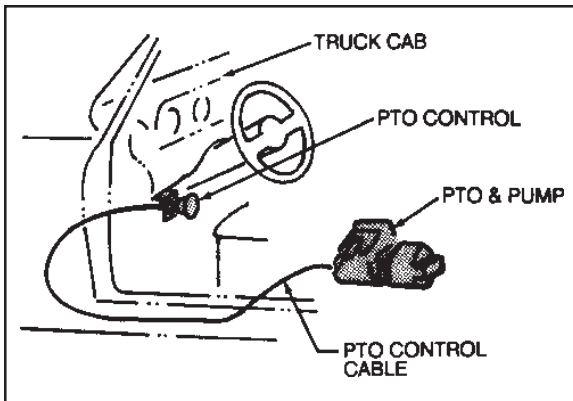

Figure 7-1.
2. Install the PTO and control cable according to the manufactures instructions. (See Figure 7-1.)